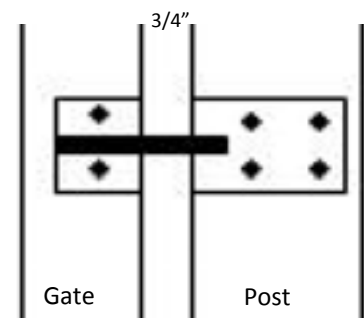

Fig. 9
Step 6. Using the eight 8-3/4" screws provided attach your latch as marked, and firmly fasten into place (Fig. 9).